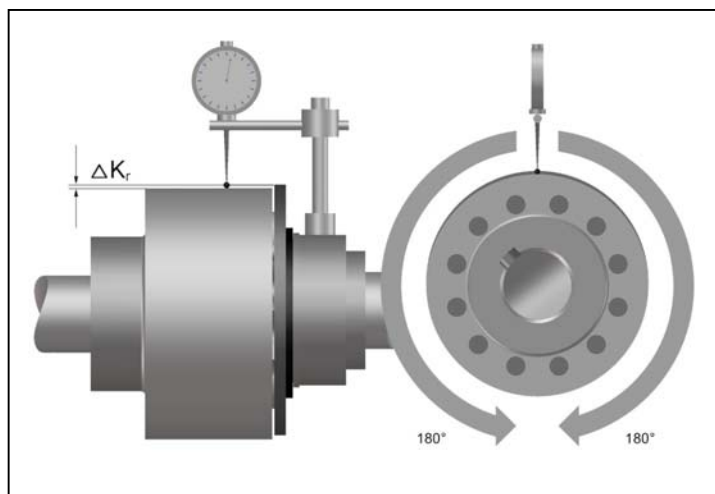

Fig. 7
- Measure one complete revolution (360°). Determine the largest deviation $Kr1$ and the smallest deviation $Kr2$ (Fig. 7).